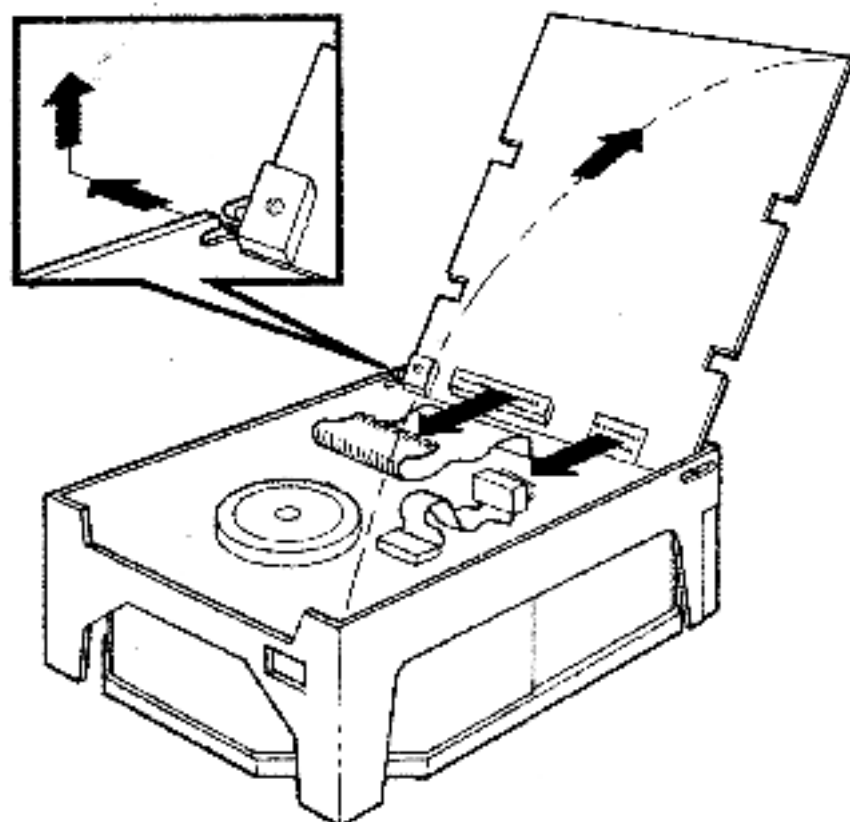

Figure 4-7 Disconnecting and Removing the Device Electronics Board
3. The electronics board is on hinges. Lift the board up and back, exposing its two connectors. Carefully pull the connectors loose (Figure 4-7).
4. Lift the pin on the left corner of the board up through the guide slot. Slide the board left, out of the right slot, and lift the board clear (Figure 4-7).